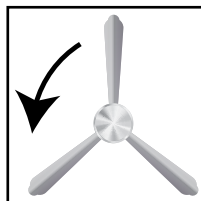

Figure 6.2
2. Push the door closed and rotate the handle to the left (counter clockwise) to extend the locking bolts and lock the safe (Figures 6.2 & 6.3).